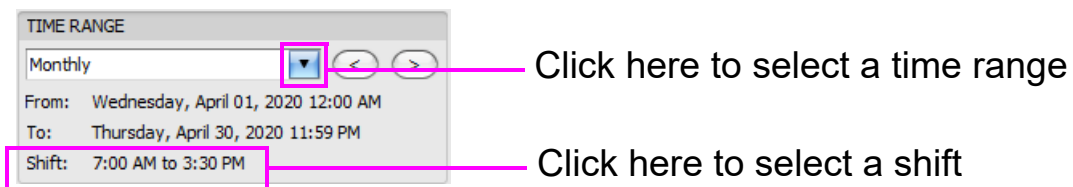

Figure 5-5: Time Range
2. Click the **Time Range** drop-down list (Figure 5-5) and select a range. Options are: **Daily, Weekly, Monthly, Yearly,** and **Custom**, where you can define a specific time range.
- In the **Time Range** section, click in the **Shift** area (see Figure 5-5).